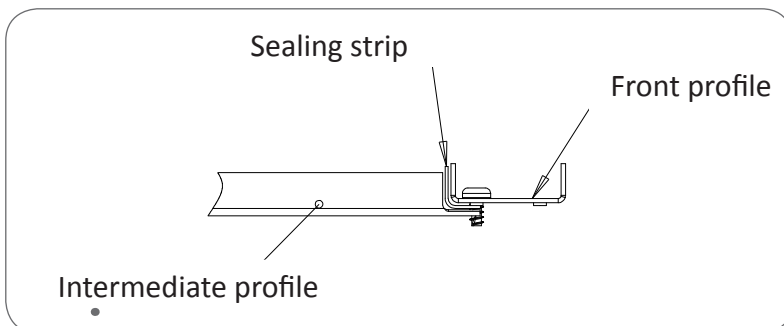

Fig 9.4. Attaching sealing strip to side plate. Sealing strip is attached to the rear part of the side plate.
On the side plates (2), sealing strip is attached to the sides facing the back plate and the L profile as shown in Fig. 9.4.
When aiming at very high protection classes (IP34-55) with F-series NBS enclosures, the joint between intermediate profile and front profile shall be sealed with sealing strip as shown in Fig. 9.4.